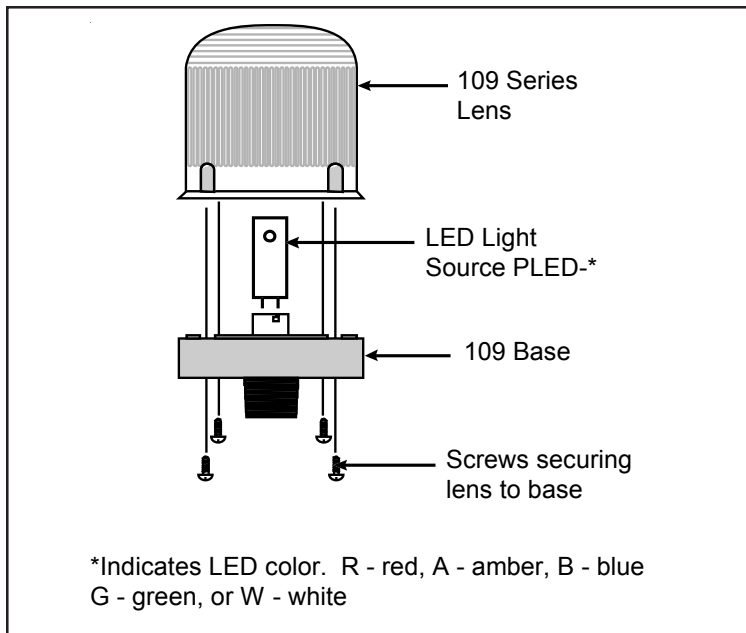

Figure 4. Replacing the Light Source
2. Remove (4) screws securing the lens to the base from bottom of base (Figure 4) and remove lens.
4. Replace lens on base and secure with (4) screws removed in step 2.